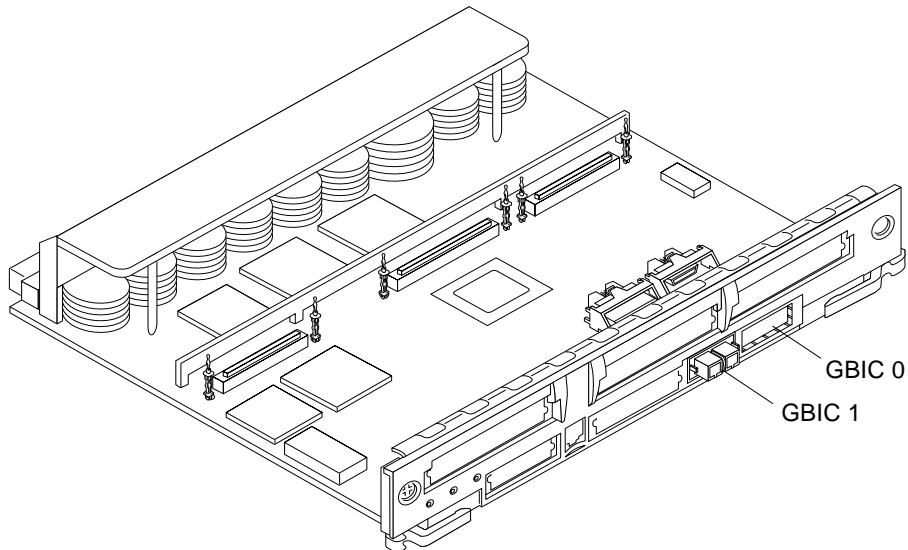
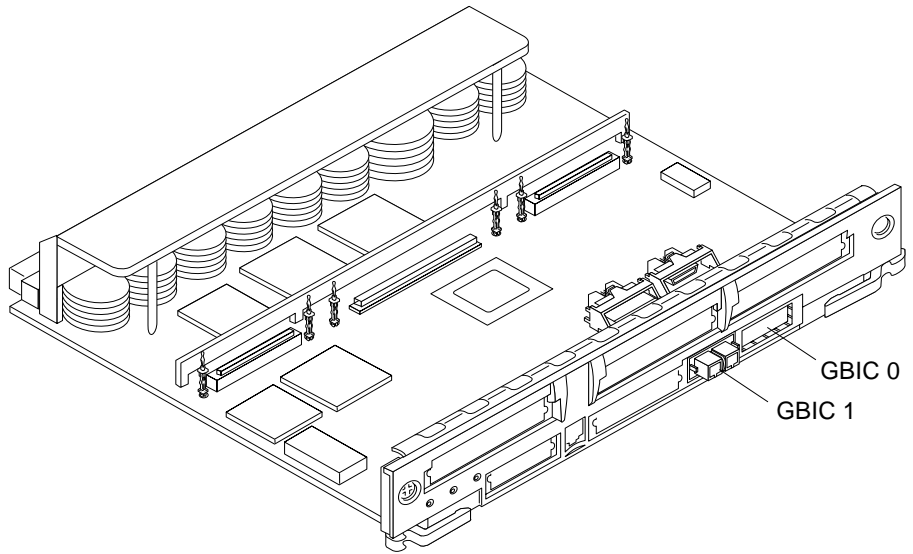

FIGURE 4-23 SBus+ I/O Board GBIC Connector Locations
FIGURE 4-24 Graphics+ I/O Board GBIC Connector Locations
1. Locate the GBIC to be removed (FIGURE 4-23 or FIGURE 4-24).
1. Locate the GBIC slot for installation (FIGURE 4-24).